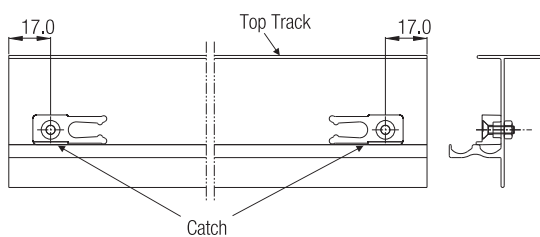

Fig. 4
- 6.1. Fit the Catch as shown in Fig 4. with M4 screws & nuts provided.